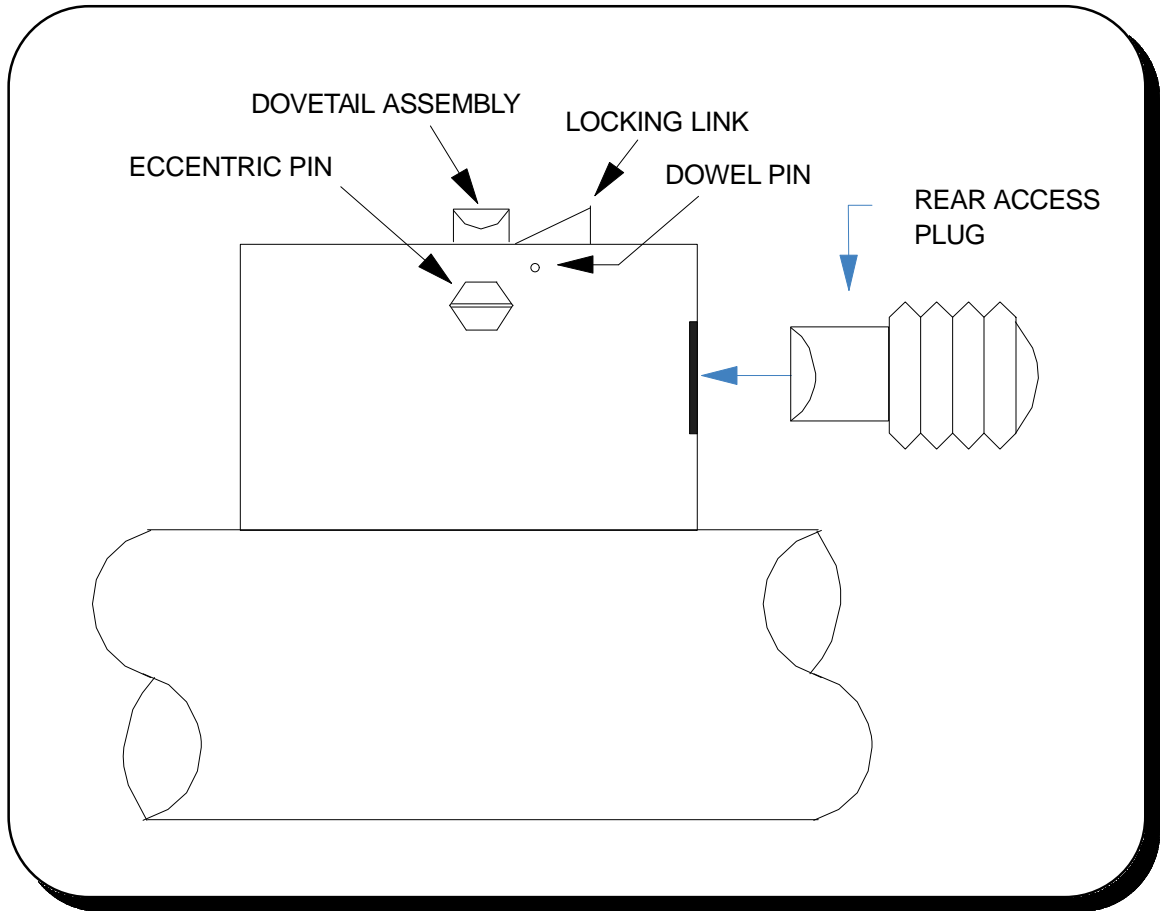

Figure 3.5.6a. Rear 5000 latch (with locking link).
1. Using a small screw driver, pry the black "rear access plug" out (see Figure 3.5.6a). If unsuccessful, drill a pilot hole and use a screw.